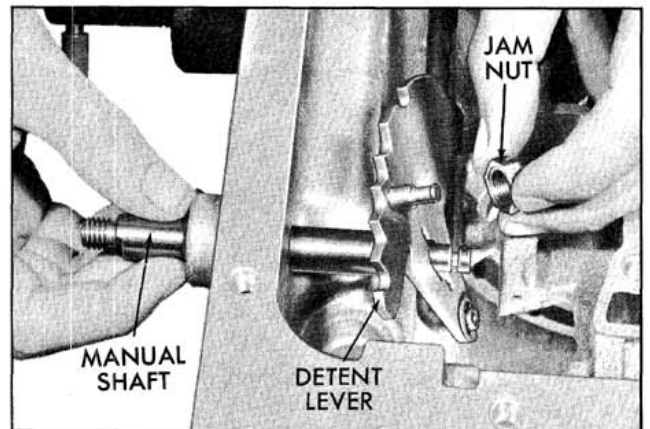

Fig. 6-62 Removing Detent Lever
- c. Remove the detent lever from the manual shaft. (Fig. 6-62)